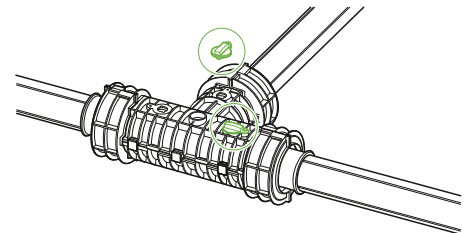

Fig. B12.1.8
7. Determine which of the three holes for PUR mixture is at the highest point as this will be left open (Fig. B12.1.8). Close the two remaining holes with caps - ensuring that the air vents are closed.